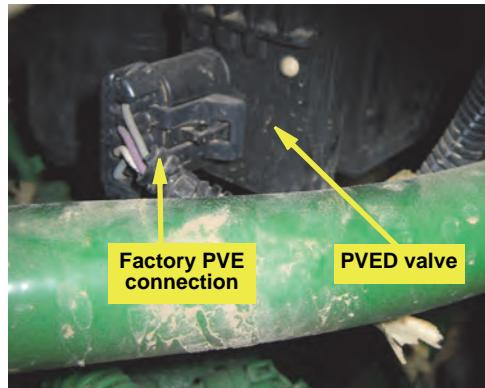

Figure 2f: 80 series - factory PVE connection
- g. Locate and disconnect the 4-pin wire connector from the PVED valve (Figure 2f). Weatherproof the disconnected cable connector. Connect SR valve cable **ED** to the open wire connector on the PVED valve (not shown).